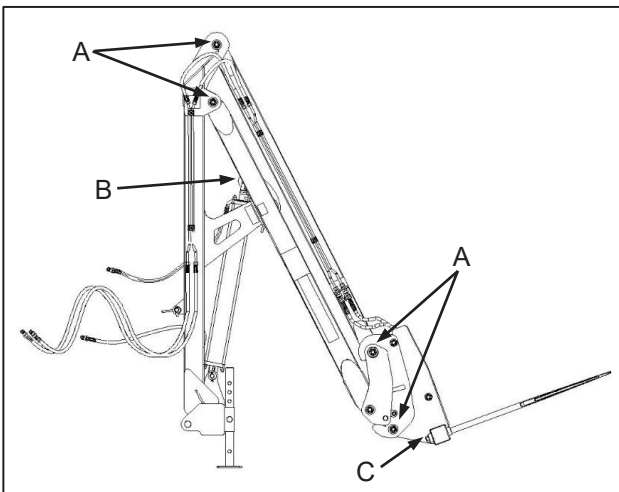
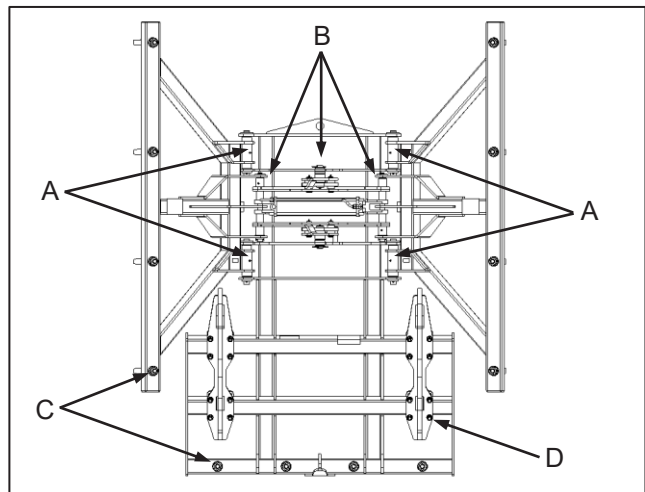

Fig. 1
Fig. 2
- ✔ Check all fasteners for tightness. This includes special attention to safety-critical fasteners such as pivot pin retaining nuts (Fig. 1-A), hitch plate retaining bolts (Fig. 2-D), and bale spike mounting points (Fig. 1-C / 2-C / 3-B) – see Bale Spike Fitting elsewhere in this section.
- ✔ Verseker dat alle hegstukke vas is. Dit sluit in spesiale aandag aan veiligheidskritieke hegstukke soos spilpenkeermoere (Fig. 1-A), koppelplaat-klemboute (Fig. 2-D) en baalpenmonteerpunte (Fig. 2-C / 3-B) – kyk Baalpenmontering elders in hierdie afdeling.
- ✔ On Uniloader® models, ONLY the upper clevis spherical bearing (Fig. 1-B) requires greasing before use. The rest of the articulation points contain maintenance-free, self-lubricating bushes.
- ✔ On the Bale Grab, apply lubrication to all supplied grease nipples (Fig. 2-A / 2-B).
Special attention should be given to the bale spikes and mounting points (Fig. 1-C).
- ✔ Op Uniloader®-modelle benodig SLEGS die boonste sferiese laer (Fig. 1-B) ghries voor gebruik. Die res van die artikulaspunte bevat onderhoudsvrye, selfsmerende busse.
- ✔ Ghries alle verskafde ghriesnippels (Fig. 2-A / 2-B) op die Bale Grab.
Spesiale aandag moet aan die baalpinne en monteerpunte geskenk word (Fig. 1-C).